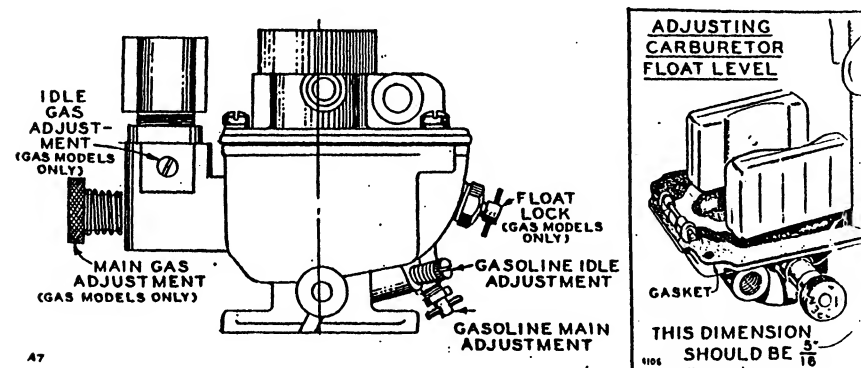

FIG.23- CARBURETOR ADJUSTMENTS
**CARBURETOR ADJUSTMENTS.** - The carburetor has adjustable main and idling jets. It is simple in construction and normally needs little attention other than a good cleaning once in a while. If the engine runs unevenly at half or full load due to faulty carburetion, the main adjustment needs correcting. See Fig 23. Adjust while the plant is running at normal operating temperature and carrying almost a full load. Turn the main adjusting needle out about two full turns. Slowly turn it in until the engine begins to lose power and speed. Turn it out very slowly until the engine runs at maximum power and speed.
The engine should be running at normal operating temperatures and carrying no load when adjusting the idle jet needle. See Fig. 23. Turn the needle in until the engine loses considerable speed. Turn the needle out until the engine runs smoothly. The correct setting is about 3/4 to 1 turn open.